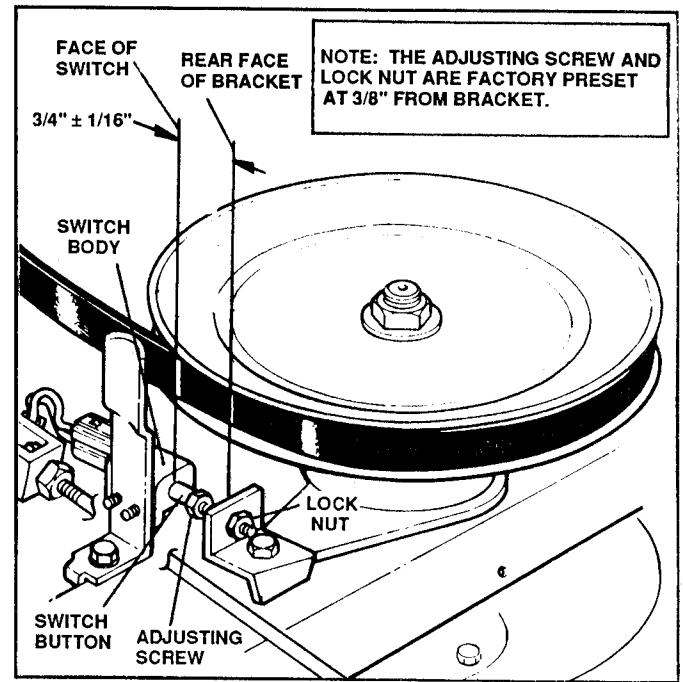

FIGURE 22
- Note that the blade brake operates properly only if cable is sufficiently slack with the BLADE CONTROL "OFF". If the blade does not stop from full speed within 3 seconds after moving the BLADE CONTROL to "OFF", readjustment of the brake band is required. To check braking action, start engine, turn BLADE CONTROL first to "ON", then "OFF", and observe how long it takes for the blade to stop rotating. To adjust brake action, stop the engine and remove the belt cover, then pull the brake band away from the drum, loosen the jam nut and adjust T-nut until there is 3/4" between face of switch and rear of bracket as shown in Figures 22 & 23.